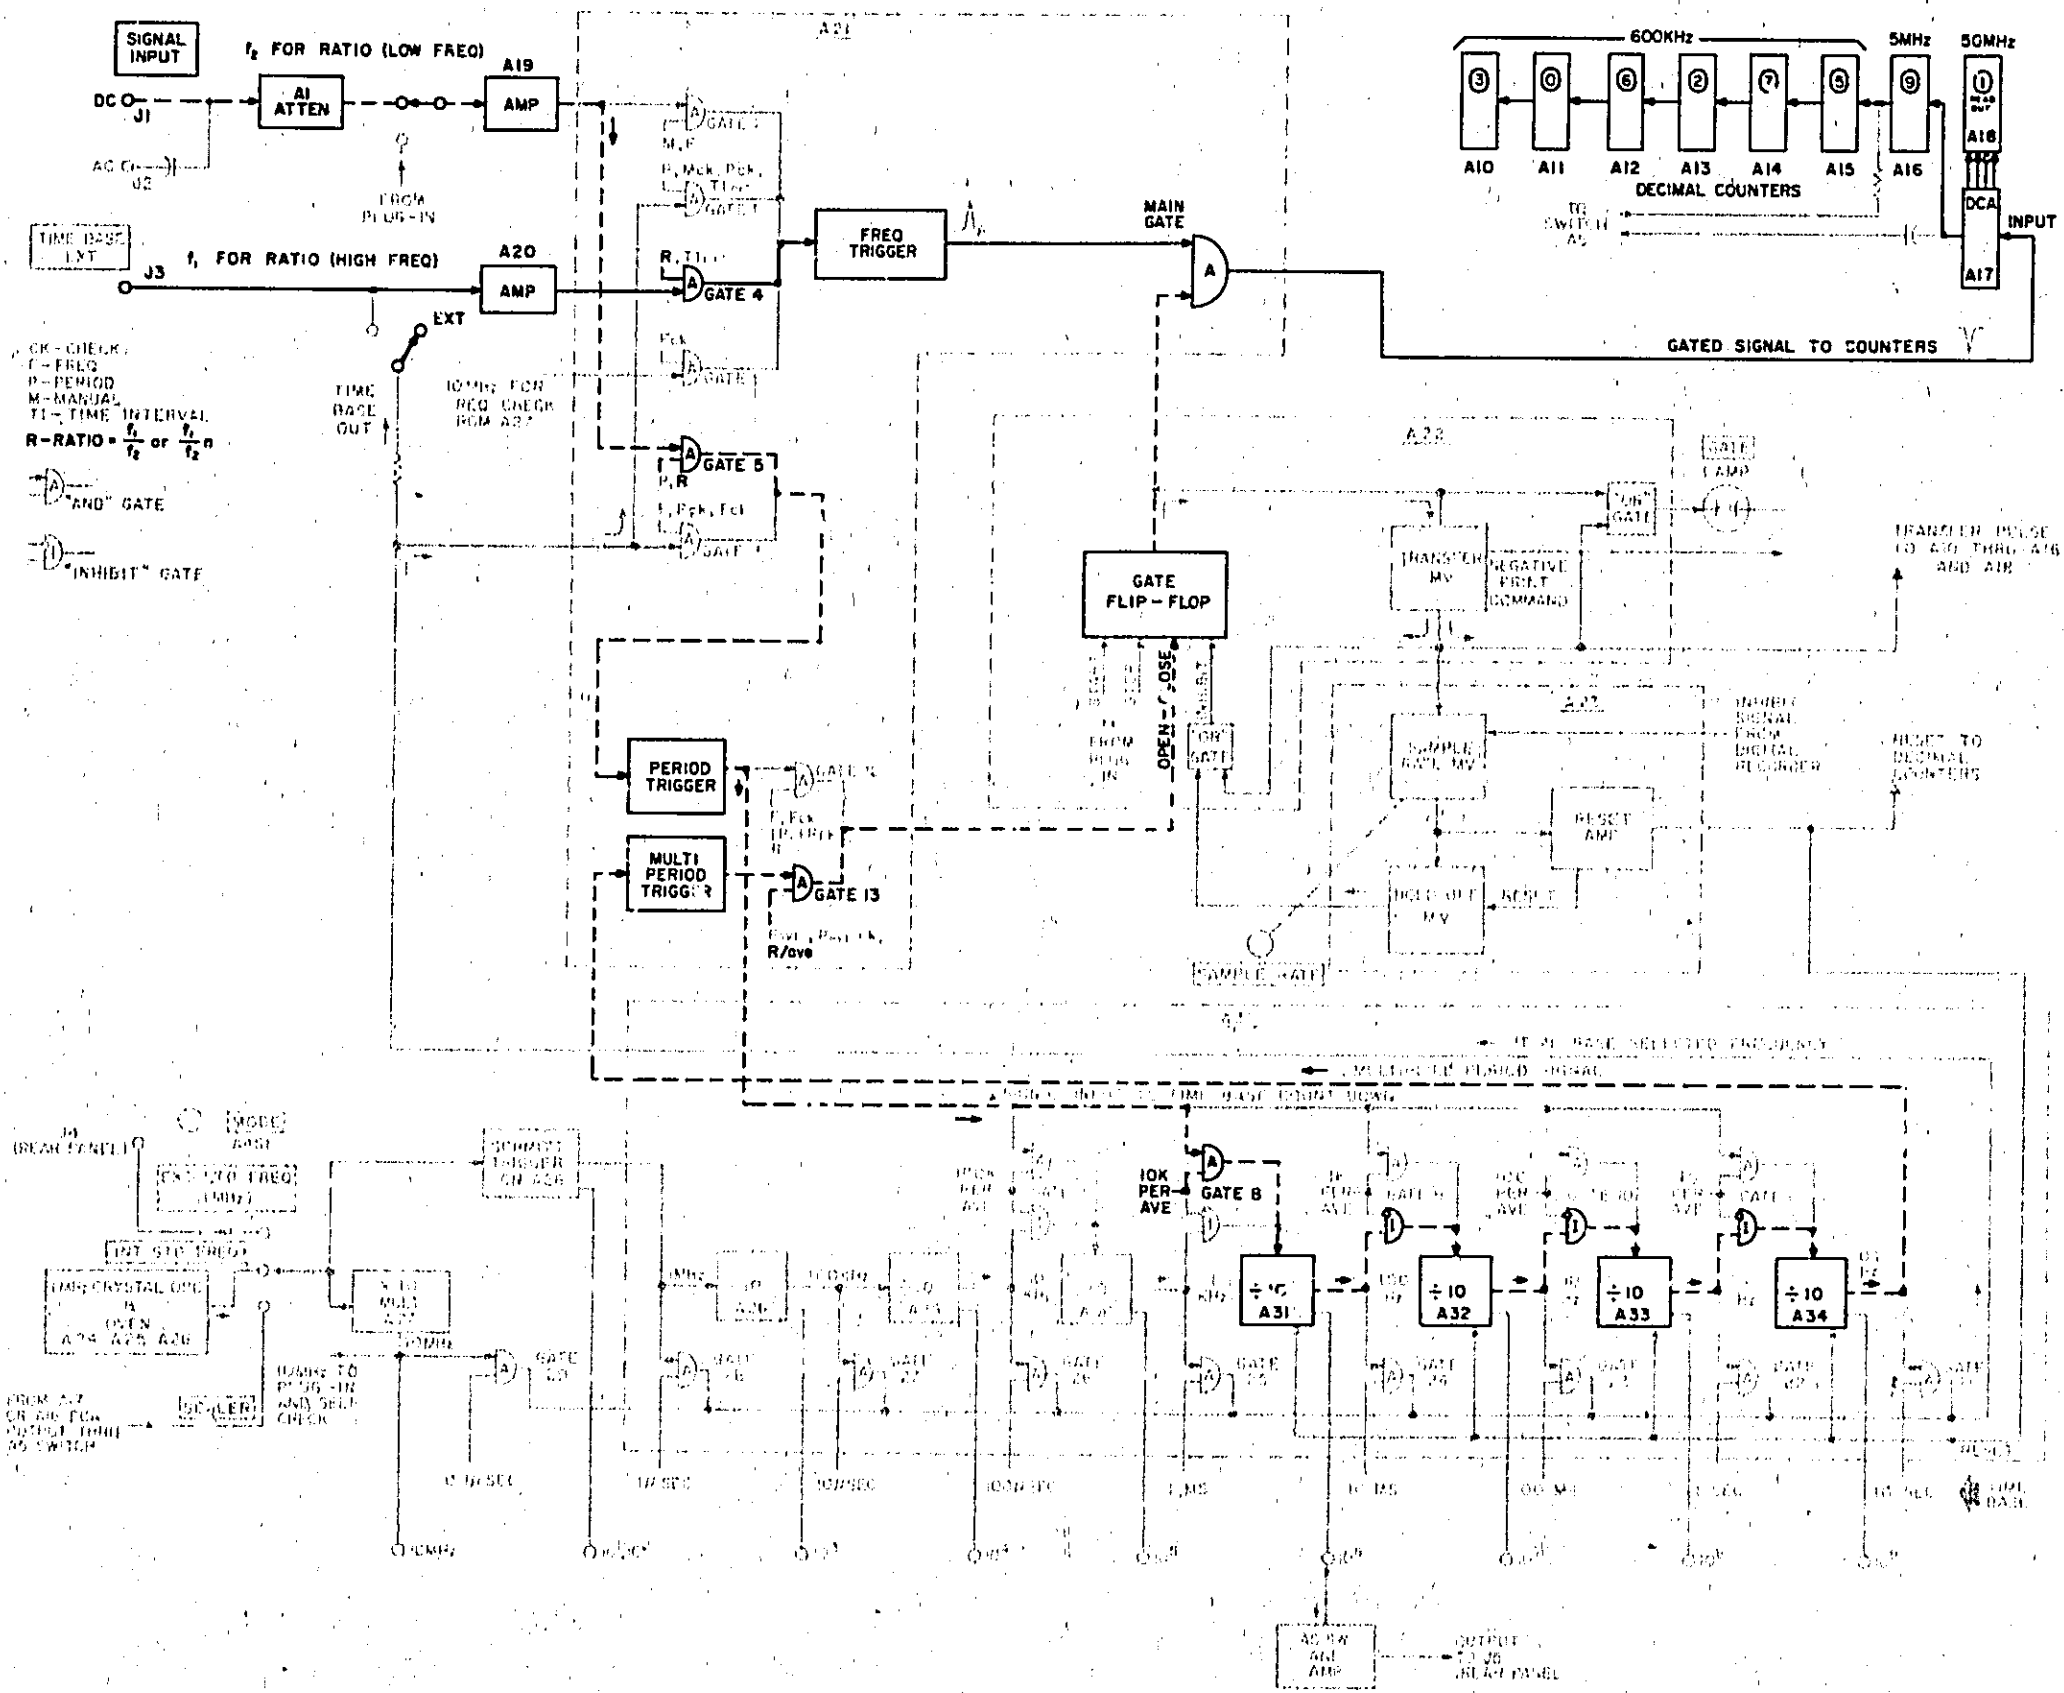

Figure 6-10. Ratio and Multiple Ratio Measurements
A ratio measurement is, in effect, a period measurement with the lower of the two frequencies used as the gating signal and the higher frequency signal used as the counted signal. In other words, the higher frequency signal takes the place of the time base. The number of cycles of the higher frequency signal  $f_1$  which occur during a period of the lower frequency  $f_2$  is counted in the DCA's. A multiple ratio measurement simply extends the number of periods of the lower frequency to 10, 100, etc. The decimal point is automatically positioned but no units are displayed since ratio is unitless. The block diagram of Figure 6-10 applies. Note that the standard selector is in the external (E) position and  $f_1$  takes the place of the internal oscillator.